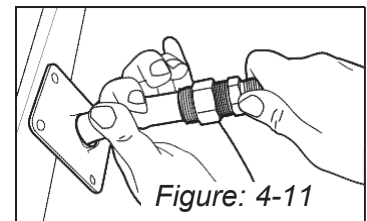
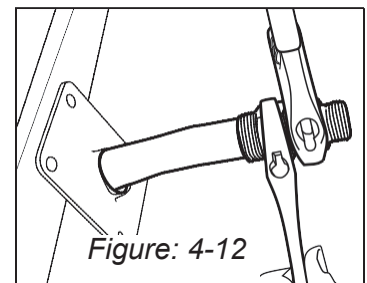
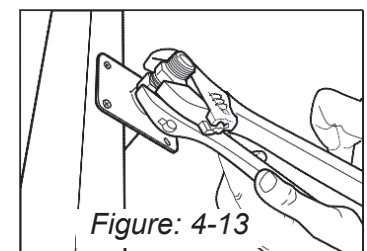

Figure: 4-11
Figure: 4-12
Figure: 4-13
- B. PIPE TO FITTING CONNECTION:** Attach fitting to pipe following all instructions in step 5. Figure:4-11 Once the fitting has been tightened to the pipe, slightly loosen this connection until the fitting can be rotated on the pipe. Figure: 4-12 Screw the fitting on to the flange and tighten. Holding the flange fitting nut, re-tighten the body. Figure: 4-13